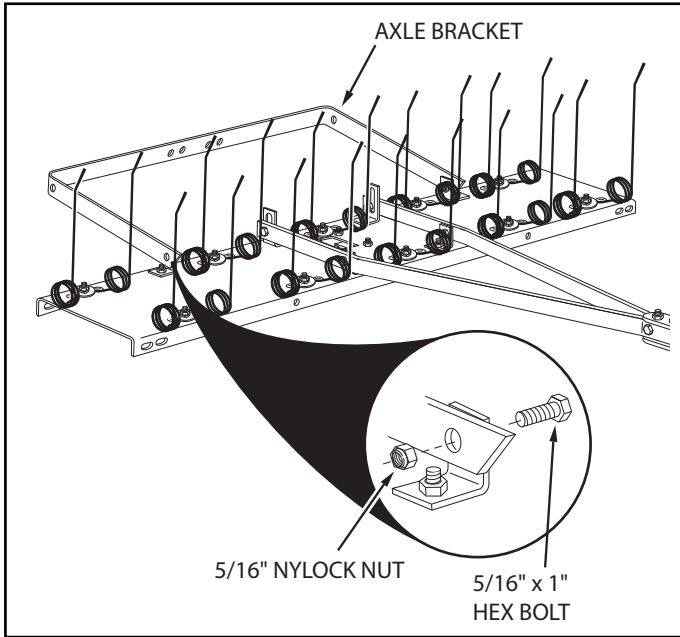

FIGURE 4
- Assemble the axle bracket to the outside of the rear angle brackets using two 5/16" x 1" hex bolts (D) and 5/16" nylock nuts (I). The angled ends of the axle bracket must point as shown in figure 4. **Tighten** the bolts and nuts and then **loosen** slightly.